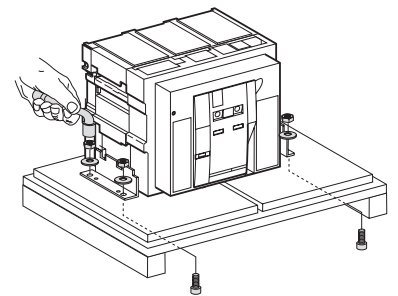

Fig. 32
- Remove the two securing brackets (see Fig. 32).